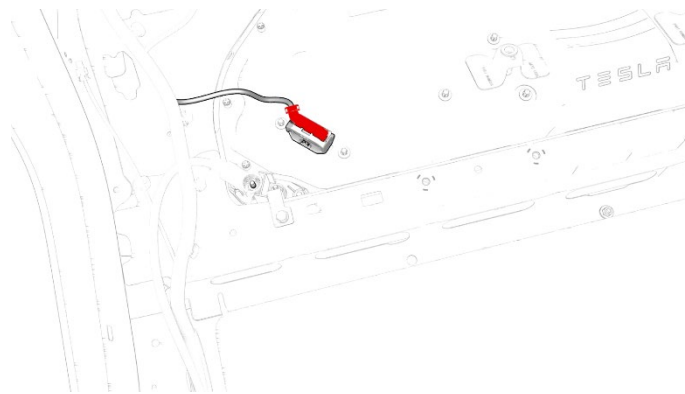

Figure 4
7. Disconnect the electrical harness from the high voltage controller connector (Figure 4).